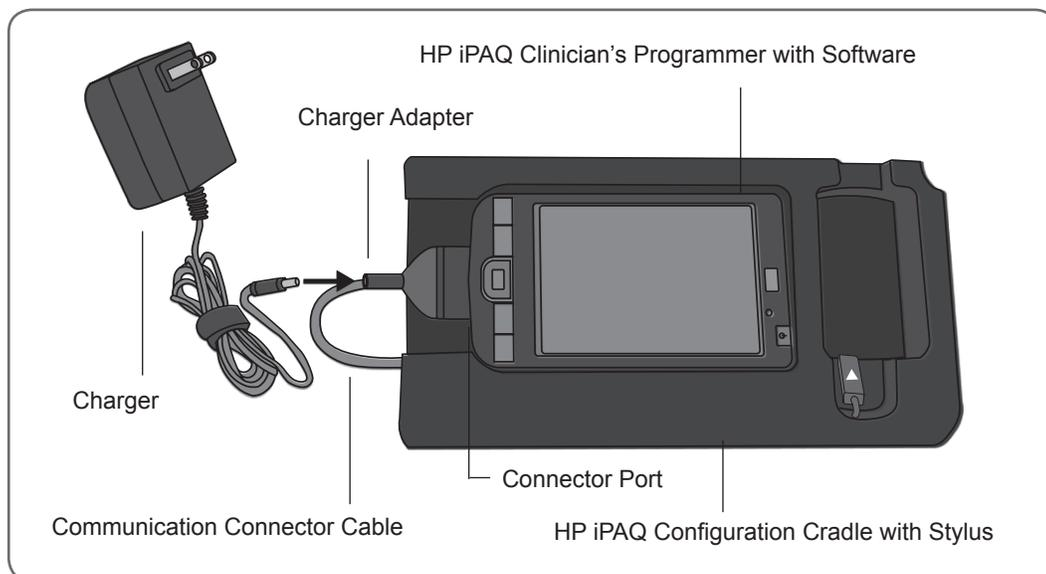

Figure 7-1: PDA setup and charging configuration.
1. Orient the Clinician's Programmer in the Configuration Cradle with the touchscreen facing up and the connector port facing left. See Figure 7-1.
1. Connect the Clinician's Programmer Charger to the charger adapter on the communication connector cable. See Figure 7-1.